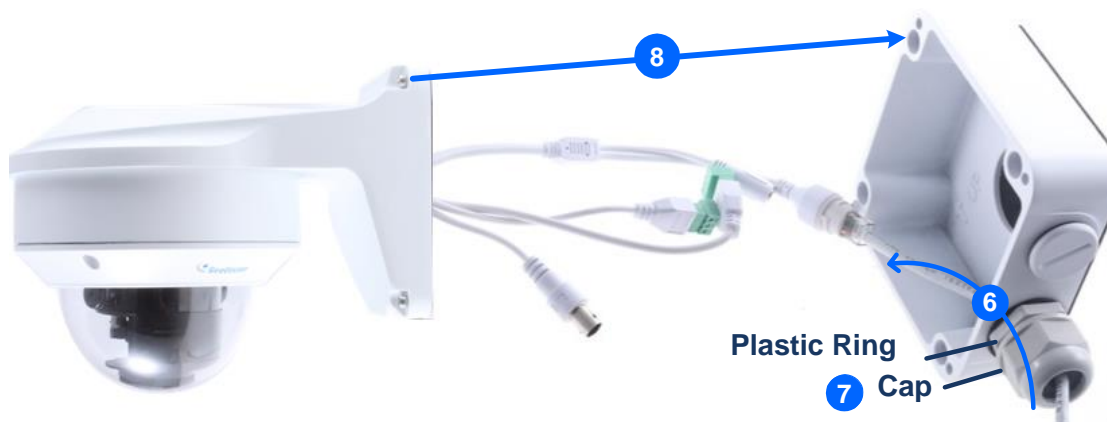

Figure 1-94
8. Screw the wall mount bracket to the power box, as shown in No. 8, Figure 1-94.